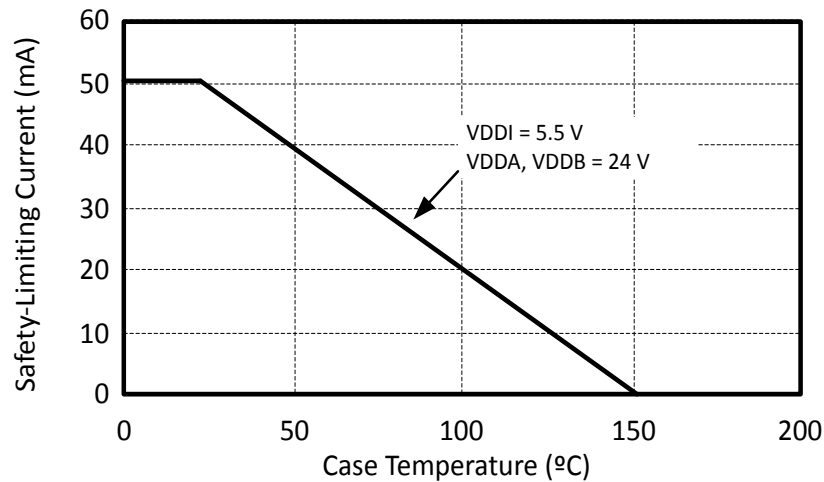

Figure 3.4. WB SOIC, NB SOIC, 14 LD LGA/QFN Thermal Derating Curve, Dependence of Safety Limiting Values with Case Temperature per VDE 0884-10
1. Maximum value allowed in the event of a failure. Refer to the thermal derating curve in Figures [Figure 3.4 WB SOIC, NB SOIC, 14 LD LGA/QFN Thermal Derating Curve, Dependence of Safety Limiting Values with Case Temperature per VDE 0884-10 on page 32](#).